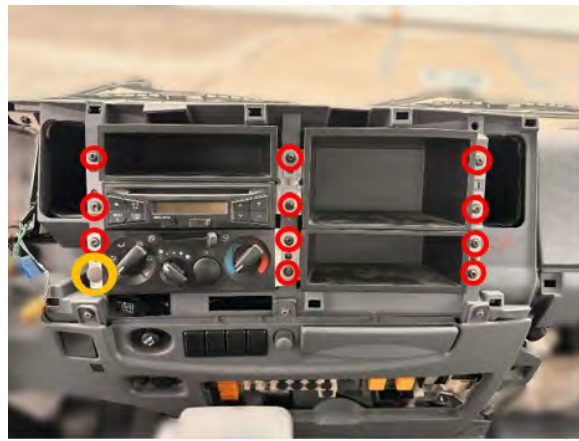

Figure 88
98. Install the cluster compartments, radio and A/C control panel removed in Step 55 (eleven (11) T25 screws and one (1) clip for the A/C control panel). If the vehicle is equipped with an aftermarket radio, follow the manufacturer's instructions in installing the radio. (See Figure 88.) **Torque the screws to 2.9 N•m (26 lb•in)**